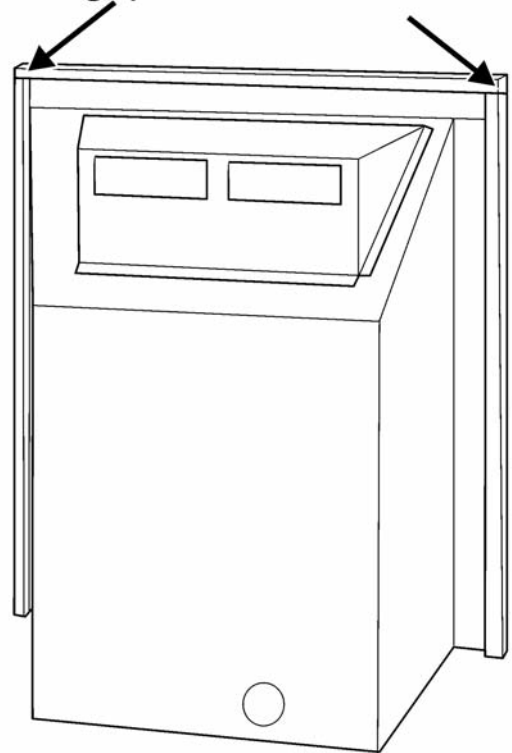

Figure 18. Fitting the foam seal
9. There is a length of self adhesive foam seal supplied with the fire. This will need to be fitted to the outer rear edges of the side and top flanges of the convection box. Cut a 485mm length of foam seal. Be careful not to stretch the seal when measuring. Remove the protective backing from the foam seal and fit this to the rear of the top flange (See figure 18). Cut two 580mm lengths. Fit these to the rear outer edges of the side flanges. Ensure that there is no gap between the foam seals where they meet at the top flange (See figure 18)